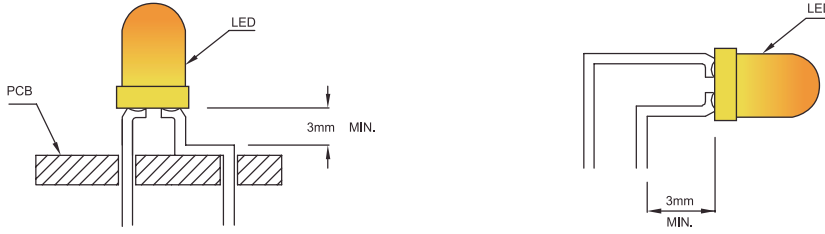

Fig. 8
3. Minimum clearance of 3mm is required between the base of the LED lens and the bend location. Refer to below diagram (Fig. 8).